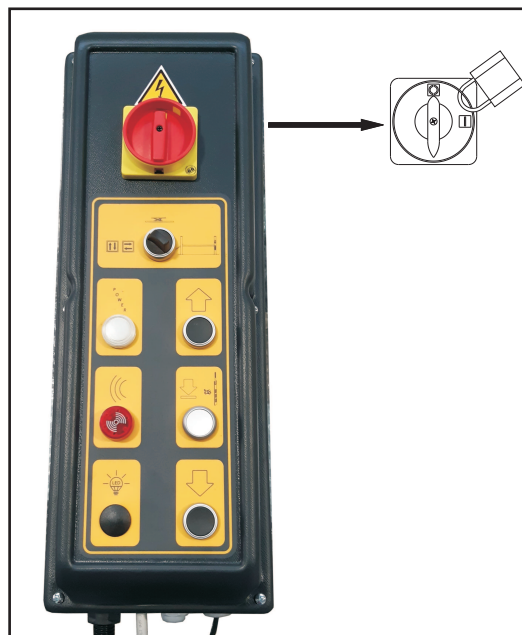

Fig.63
- The main switch on the control panel **MUST BE LOCKED OUT** IN POSITION "0"; see figure 63.